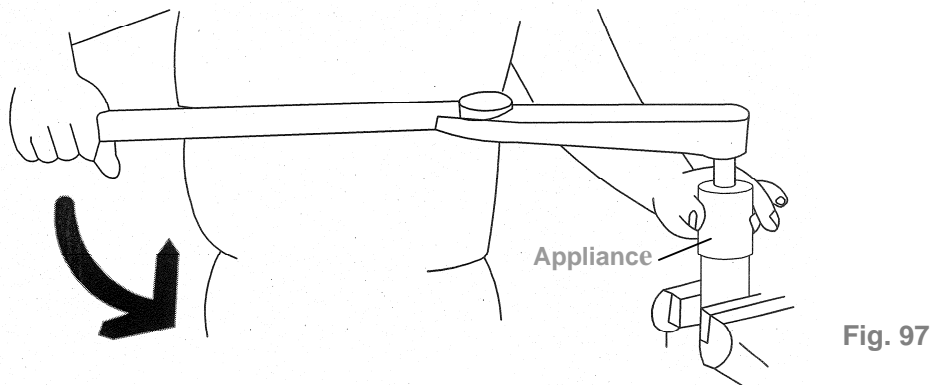

Fig. 97
(3) Pulse Unit Disassembly:
- ❶ Fix the pulse unit by a vise. Use the appliance (see Table 13) to loosen the lock nut on the pulse unit, Fig. 97.